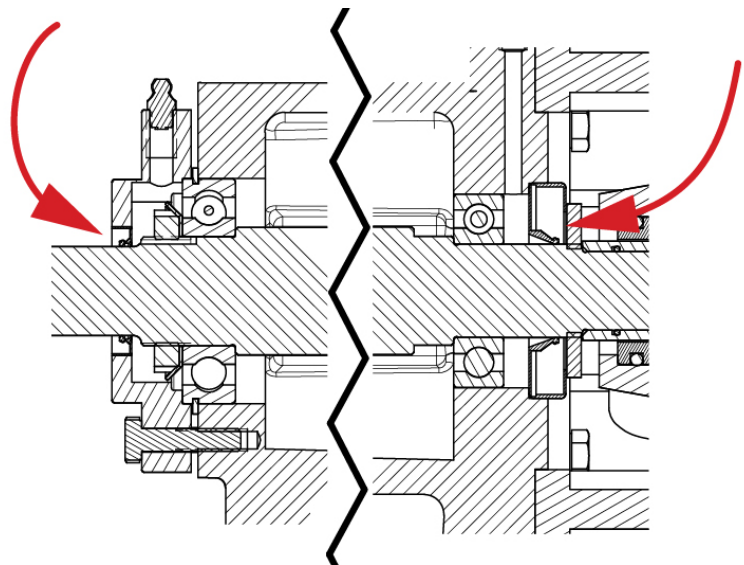

Figure 7-1: Lip seal (49, 51) orientation
Ensure lip seals (49, 51), bearings (16, 18) and motor bearings (see motor manufacturer's recommendations) are adequately lubricated for the service duty. Make sure lip seals are installed in the correct orientation; the lips should face away from the frame (19). The arrows in Figure 7-1 are pointed towards the springs which should be visible when viewing the pump. This allows for leakage of excess grease since there is no overflow opening.